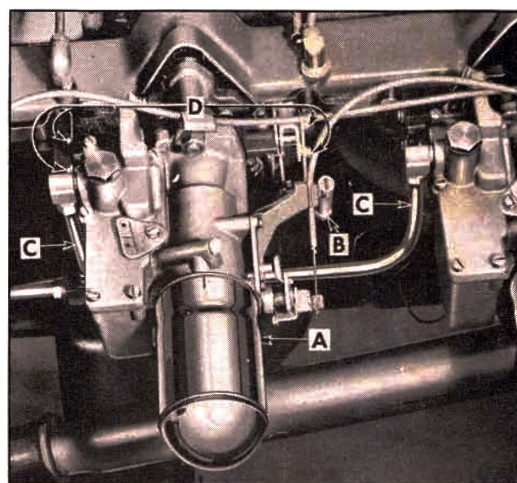

Fig. 1
1. Loosen set screw "A" retaining the air intake extension to the carburetor and remove extension (fig. 1).